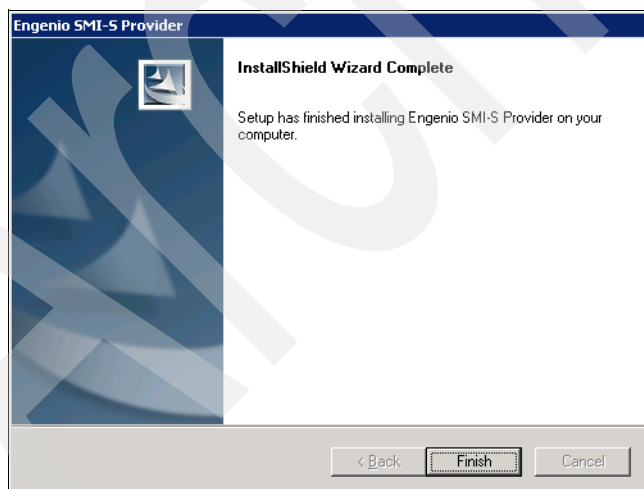

Figure 9-10 InstallShield Wizard Complete window
7. Click **Next** to start the Engenio SMI-S Provider Service. When the Service has started, the installation of the Engenio SMI-S Provider is complete. You can click Finish on the InstallShield Wizard Complete window, as shown in Figure 9-10.